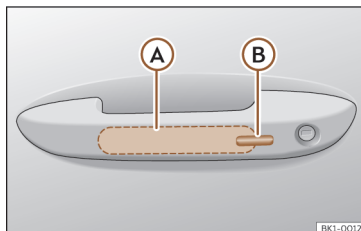

Fig. 75 Door handle: sensor surfaces.
>>> **Fig. 75**
- Touch the sensor surface (B) >>> **Fig. 75** on the outside of the door handle. All turn signals flash once.
- Within 5 seconds, touch the sensor on the outside of the door handle once >>> **Fig. 75** **B**. Do not grip the handle while doing so. This temporarily deactivates the Keyless Access system.